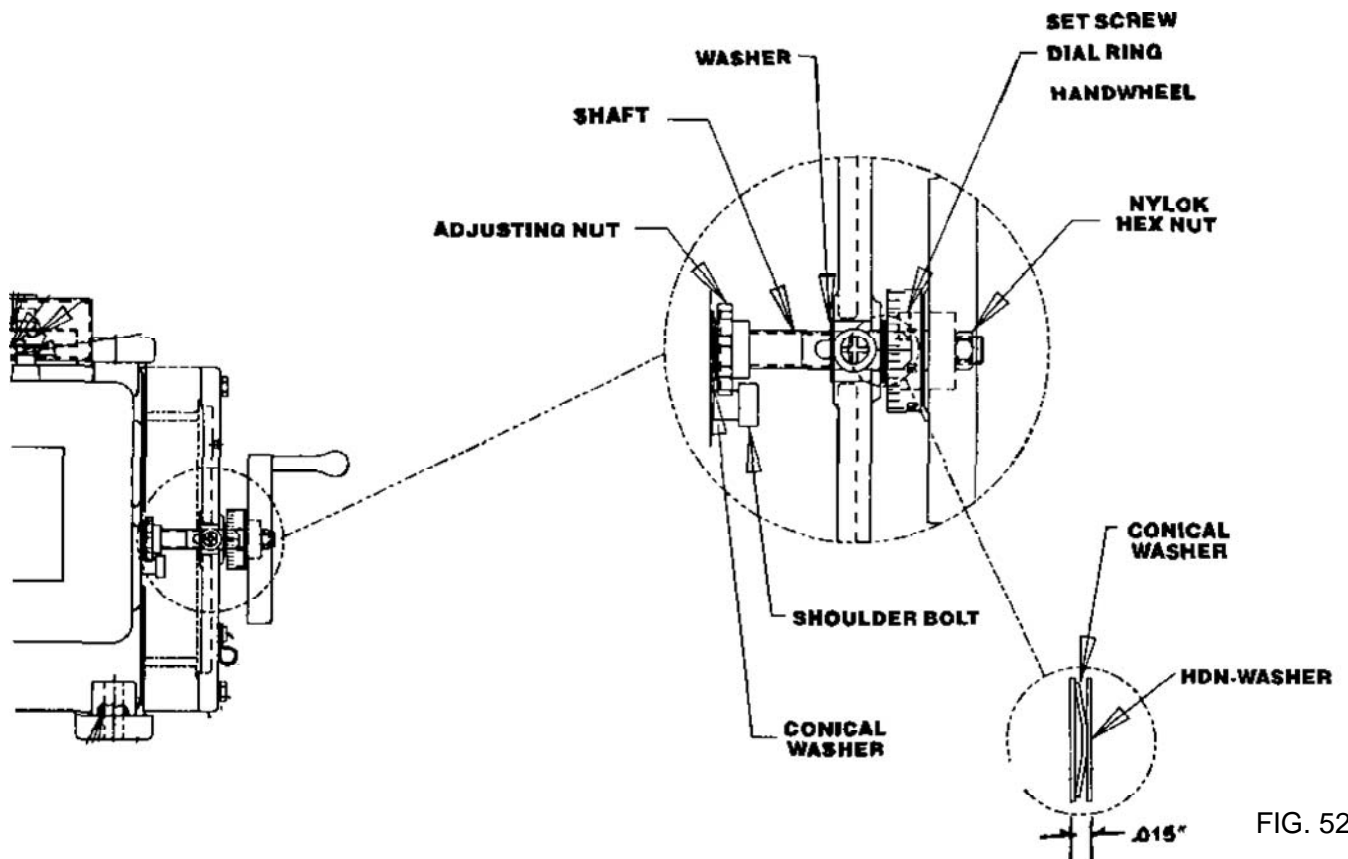

FIG. 52
- C. Check for .015 in [.4 mm] gap between the wave washer and flat washer. See insert to FIG. 52.